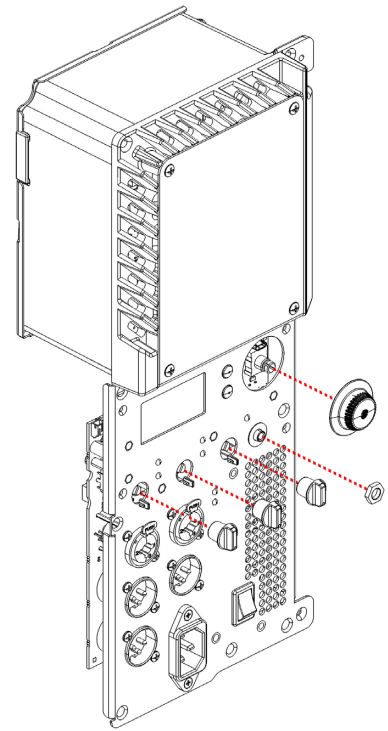

Figure 6.3.1 - Knobs and 3.5mm jack nut
3. Remove the 3 gain knobs from the front of the amplifier module. See Figure 6.3.1. *The rotary encoder knob doesn't need to be removed.*
6. Install the 3 gain knobs and 1 rotary encoder knob (if removed) to their appropriate locations. See Figure 6.3.1.
2. Remove the large knob from the rotary encoder shaft (Figure 6.3.1).